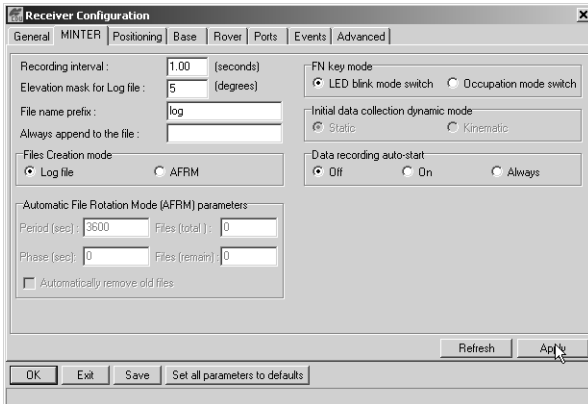

Figure 3-2. Configuration->Receiver->MINTER
2. Open PC-CDU, click **Configuration->Receiver ->MINTER** and specify the following parameters, then click **Apply** (Figure 3-2 on page 3-7):